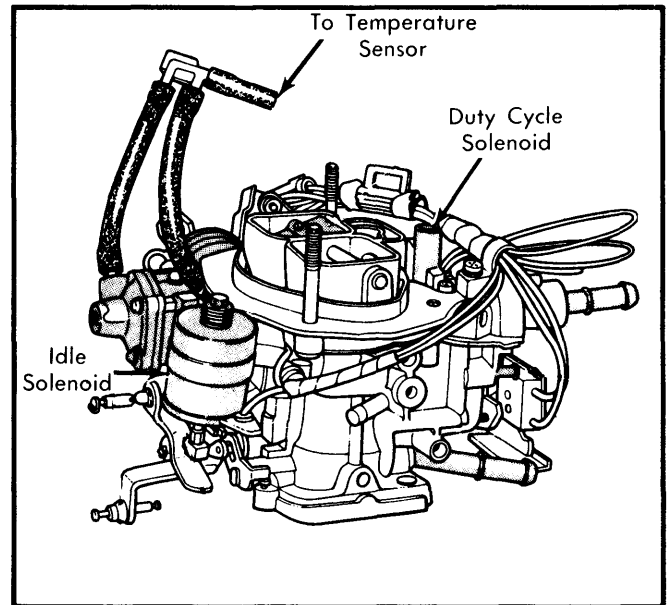

Fig. 8 Replacing Duty Cycle Solenoid
**Removal** — 1) Remove 2 duty cycle solenoid retaining screws and gently lift solenoid from air horn. See Fig. 8. Remove anti-rattle spring, 2 retaining screws and idle solenoid from carburetor.